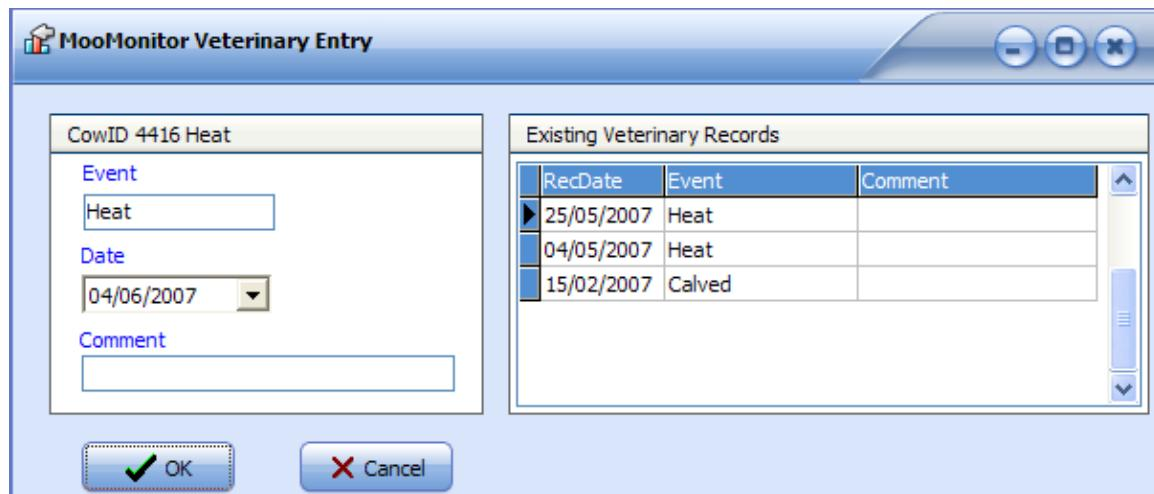

Figure 23 MooMonitor Veterinary Entry screen.
- d. The screen displayed in Figure 23 will be displayed.